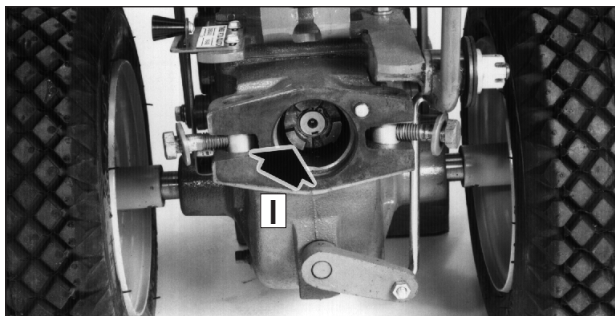

Figure 5-5: Use grease liberally in PTO access area.
9. Keep the PTO access area well-greased (I, Figure 5-5). If the Tines/PTO Clutch Lever becomes hard to move, squirt some oil into its access hole, and work it back and forth to disperse the oil.